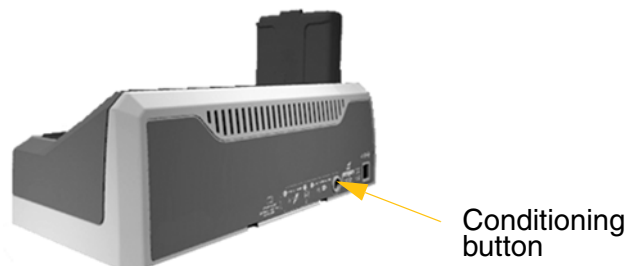

Figure 3.4 Battery charger conditioning button
- Press the conditioning button on the back of the charger. Amber LEDs become solid, and all green LEDs start to flash. Release the conditioning button. See Figure 3.4